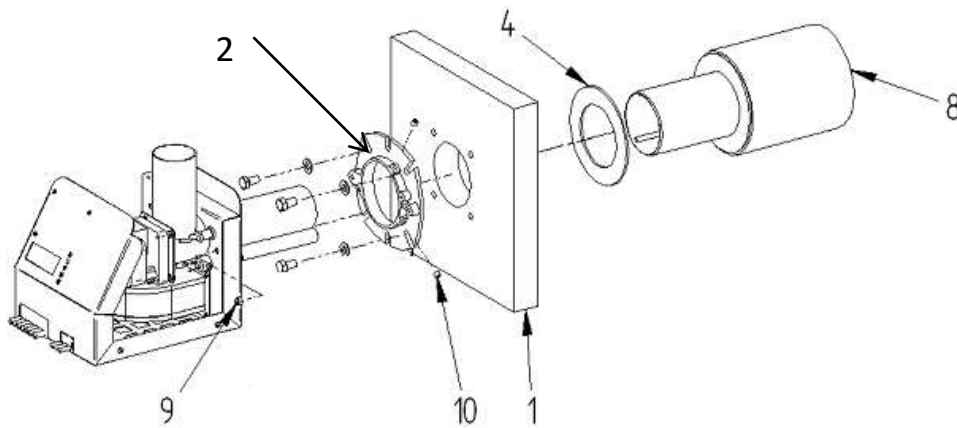

Figure 9
3. Fix the flange (2) to boiler's door (1). Figure 9. Make sure that opening of flange and the opening of the boiler's door are aligned.